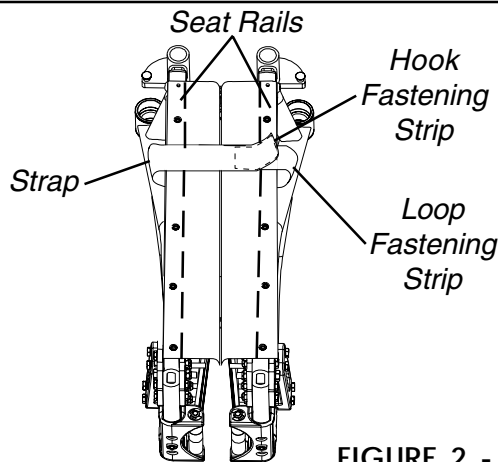

FIGURE 2 - USING/STORING THE STRAP
(FIGURE 2)**
4. Wrap the strap around the seat rails of the wheelchair as shown in FIGURE 2.
2. Secure the loop fastening strip of the strap to the fastening strips on the seat upholstery as shown in FIGURE 2.